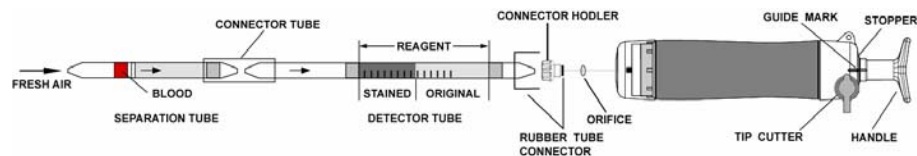

Fig.1
- ① Break both ends of the detector tube and separation tube.
- ② Connect the detector tube and separation tube with the connector tube as shown in Fig.1.
- ③ Insert the detector tube into the aspirating pump securely. (An arrow mark should point to the aspirating pump.)
- ④ Take 0.1mL of blood into a syringe and insert it into the separation tube.
- ⑤ Align the guide marks on the handle and the stopper of the aspirating pump.
- ⑥ Pull the pump handle at full stroke locked position and wait for 2 minutes.
- ⑦ Push back the pump handle and repeat the above ⑤ to ⑦ procedures 2 times more.
- ⑧ Remove the detector tube from the rubber tube connector and read the scale at the maximum point of the stained layer.
- ⑨ The scale is calibrated at 20°C (68°F). Readings obtained in other circumstances should be corrected by using "5. TEMPERATURE CORRECTION TABLE".